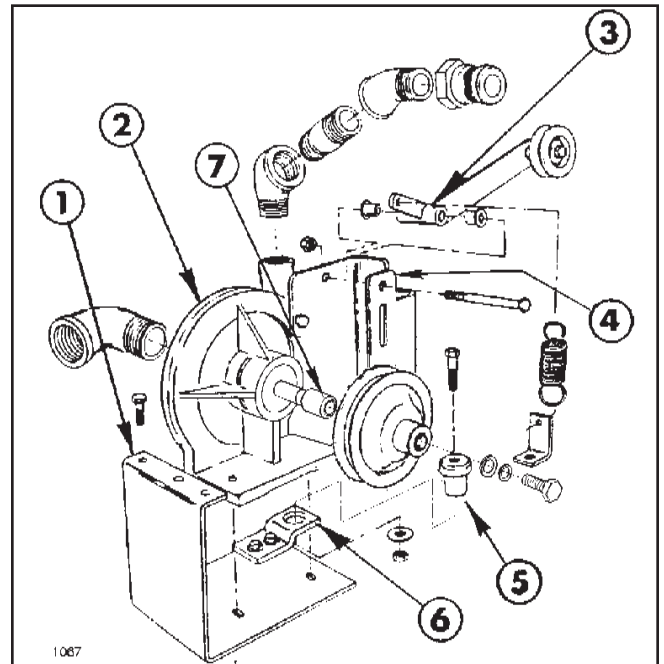
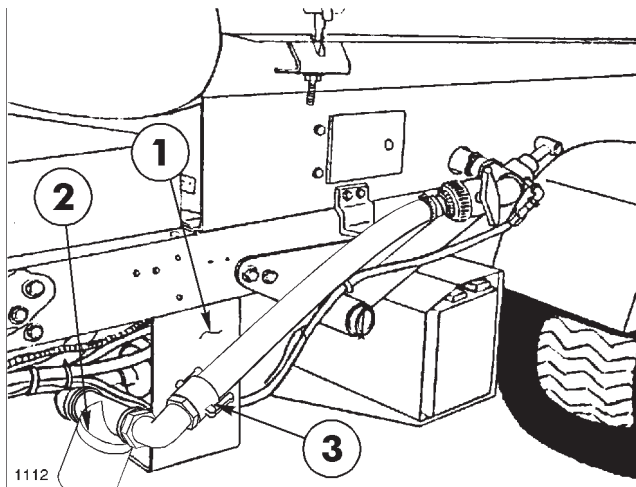

FIG. 2
FIG. 4
1. Slide Pulley Spacer onto the pump shaft and install Square Key into pump shaft keyway. Place the Pump Pulley on the pump shaft and secure with a 5/16" x 3/4" hex hd. cap screw, 5/16" I.D. 10 GA. flat washer, and lockwasher. See FIG. 2.
2. Attach the Idler Pivot Bracket to the Pump by removing the two pump housing bolts and replace with the (2) 3/8"x 1" hex hd. cap screws (FIG. 2).
3. Install one flange bushing into each end of the Idler Pivot assembly tube and attach to the Idler Bracket using the 3/8" x 3" hex hd. cap screw and locknut (FIG. 2).
4. Mount the small Inside Idler Pulley on the long arm of the Idler Pivot Assy. using the 3/8" x 2-3/4" hex hd. cap screw, 7/8" spacer, and locknut. **Shim as required between Idler Pivot Assy and Inside Idler Pulley with the (3) 3/8" flat washers to align with Pump Pulley.** Attach the Tension Spring to the short arm of the Idler Pivot Assy. See FIG. 2.
5. Apply sealer and install the 90° x 1-1/4" street elbow into the suction port of the Pump. Apply sealer and install 1"x 3" nipple, (2) 45° x 1" elbows, and Quick Adapter into the discharge port of the Pump (FIG. 2).
6. Install the Rubber Mount into the Tab Mount and loosely attach the Tab Mount to the Pump Mounting Bracket using the (2) 3/8" x 1" hex hd. cap screws, flatwashers, and locknuts (FIG. 2).
7. Attach the Pump Mount Bracket assembly to the left side of the vehicle frame using the (3) 5/16" x 1" hex hd. cap screws, lockwashers, and hex nuts (Fig. 4). Insert the 3/8" x 1-1/2" hex hd. cap screw through the Rubber Mount and attach to the vehicle frame member using the 3/8" I.D. 10 GA. flat washer, and locknut (FIG. 2). Tighten all fasteners securely.
9. Mount the Pump and the Spring Tab to the Mounting Plate using the (2) 3/8" x 1-1/2" hex hd. cap screws, flat washers, and locknuts. Attach the Tension Spring to hole in Spring Tab (FIG. 2).
10. Apply thread sealer and install 1-1/4" close nipple, Suction Strainer, 90° st. elbow, reducing nipple and Quick Adapter into the suction side of the Pump (FIG. 4).